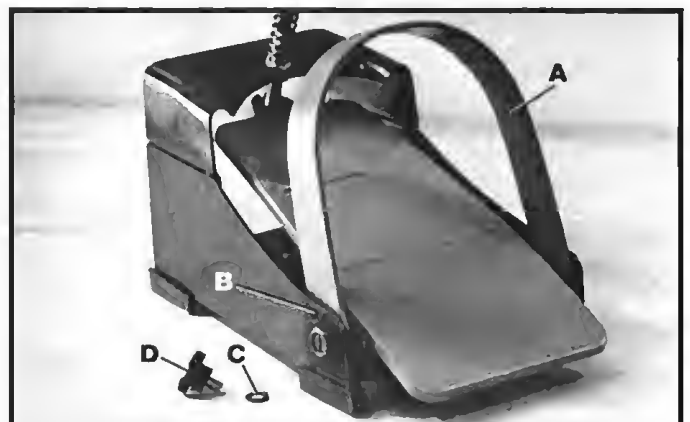

Fig. 9
1. Lift up and rotate guard (A) Fig. 9, until hole in guard lines up with hole (B) in foot pedal assembly. Fasten guard (A) in place with lockwasher (C) and threaded lock knob (D).